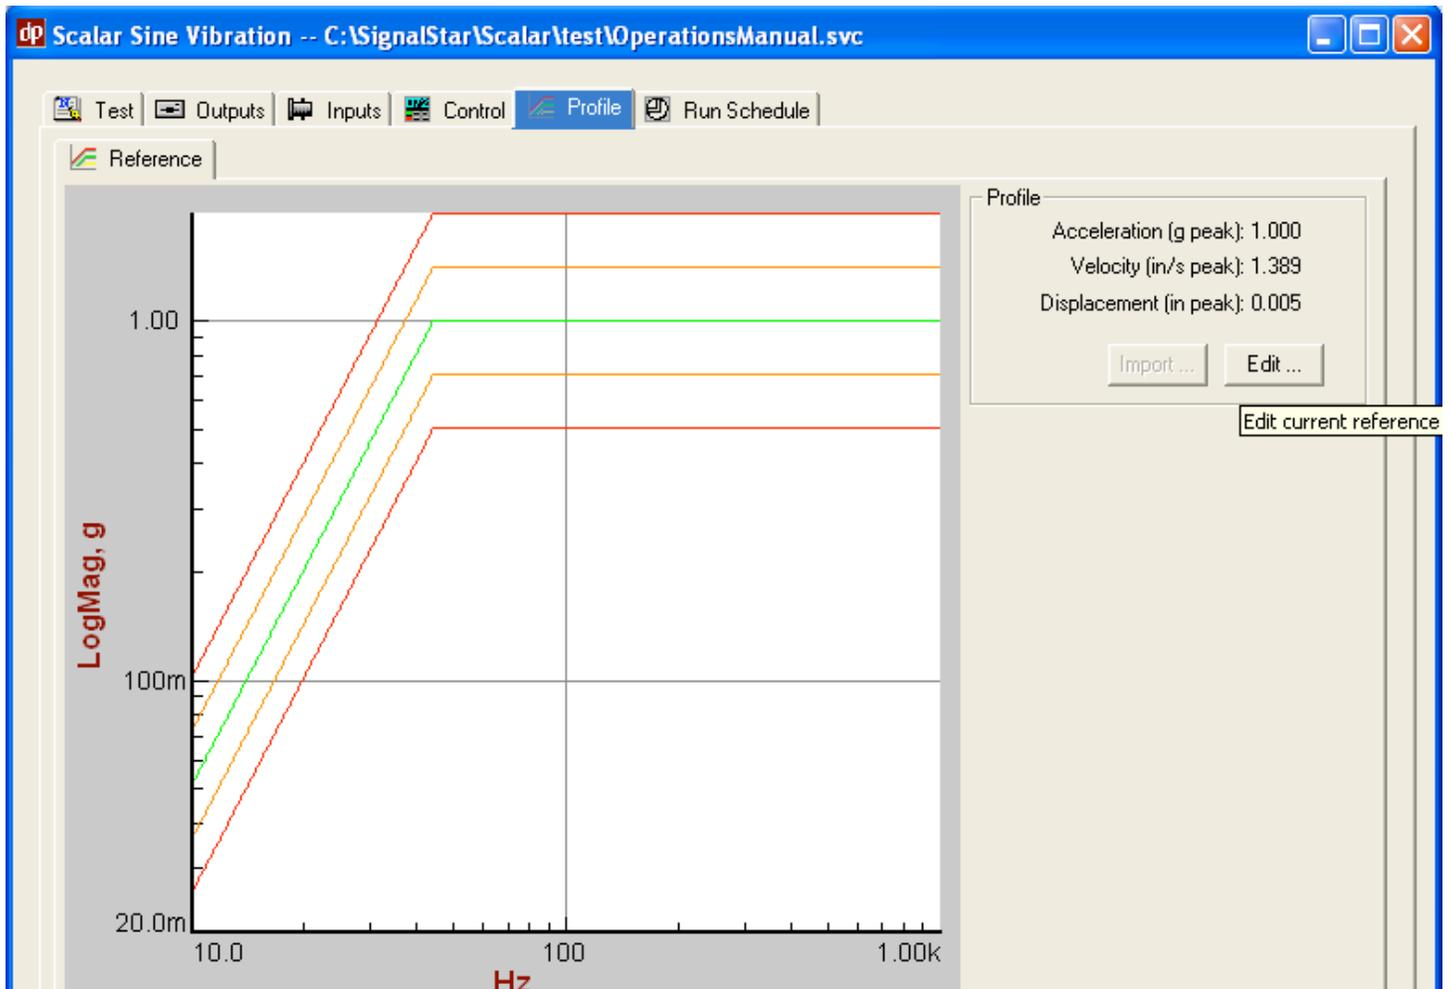
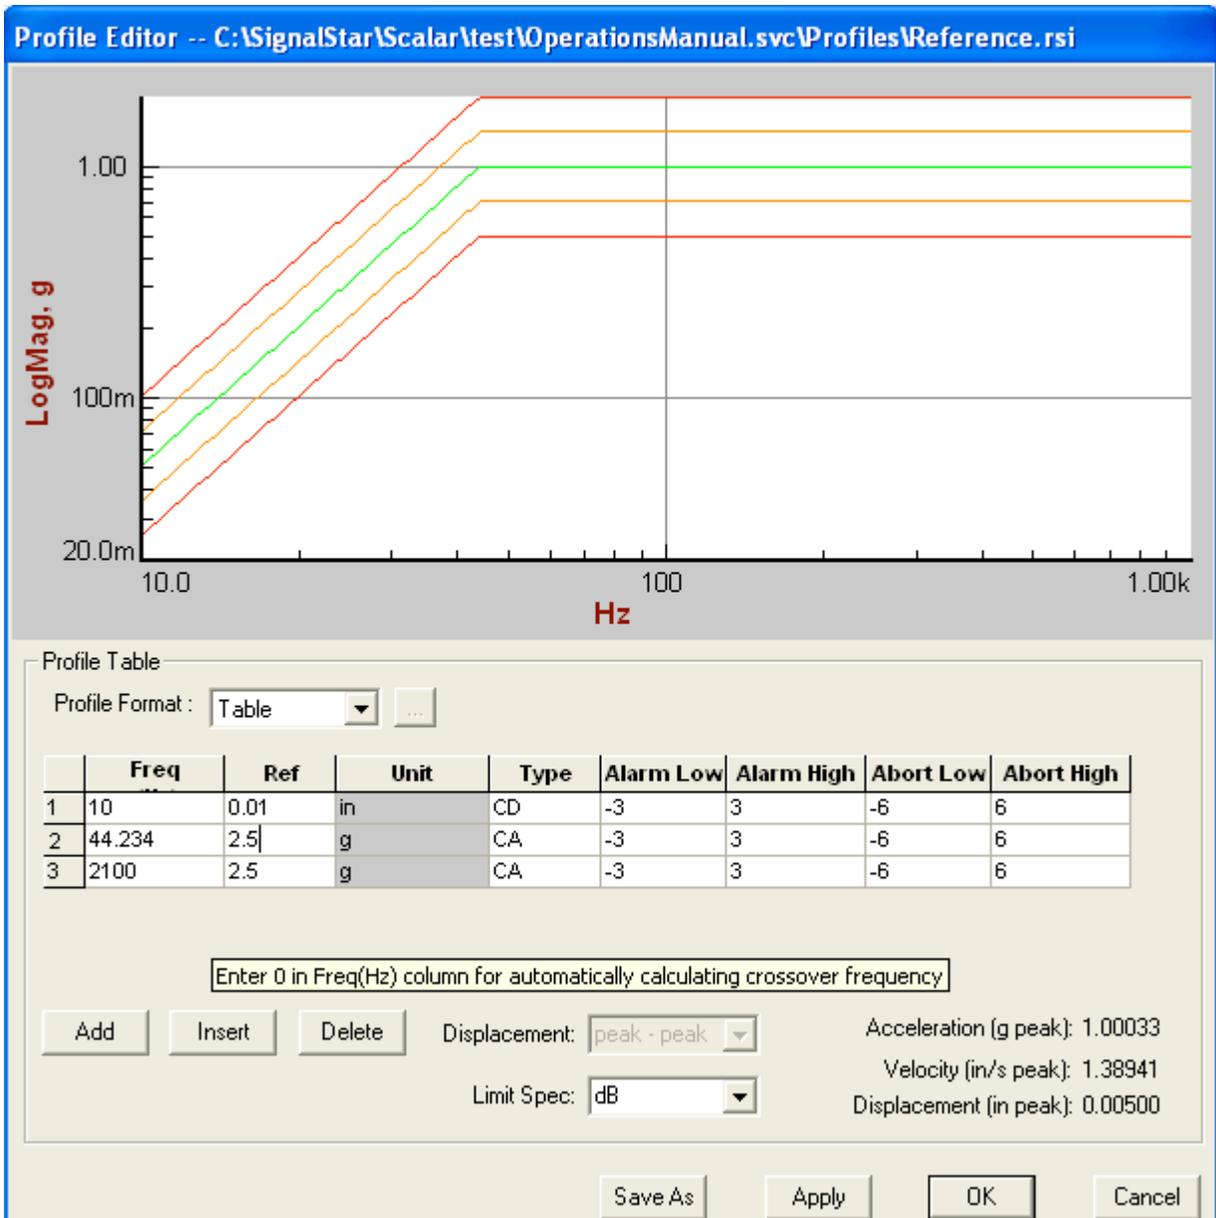

Figure 4-13: Screenshot of the Profile portion of the Test Setup menu
Figure 4-14: Screenshot of the Profile Editor menu
- 13) Click the “PROFILE” tab; under the Profile section and to the right is all the parameters. Click EDIT and this will show the frequency sweep broken down in three parts: the beginning frequency, a median, and the ending frequency. Altering “Ref” in the 2nd and 3rd rows (median and ending frequency) will determine the ramp up. Do not ramp up to the full amplitude too soon because the test will fail. The amplifier needs time to get up to full amplitude. The actual number is in g's and determines the amplitude the test will run at. 2.5g is the max amplitude the project’s tests were run at. See Figure 4-13 and Figure 4-14.